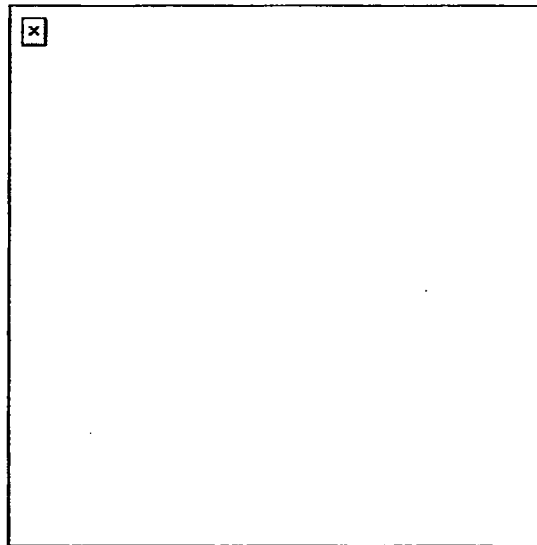

Figure 2. Pushing round across feeder pawls.
- b. Push or slide the round across the first set of feeder pawls, making sure the round is straight and firmly seated against the bolt (Figure 2).